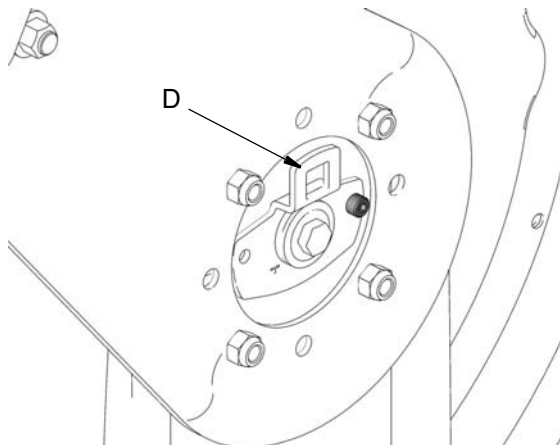

FIG. 28
6. Remove ratchet (C) from opening (D) (FIG. 28).